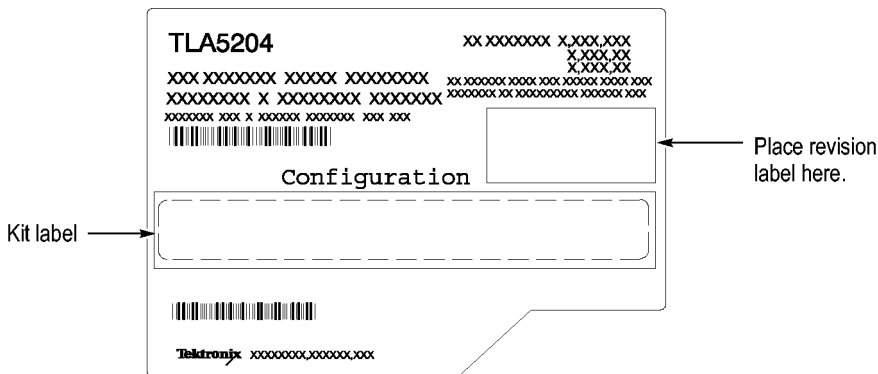

Figure 3: TLA5000 series logic analyzer label
2. Locate the PowerFlex option label from the label sheet that you received with this kit. Peel the label from the sheet and affix it to the Kit label location. (See Figure 3.)